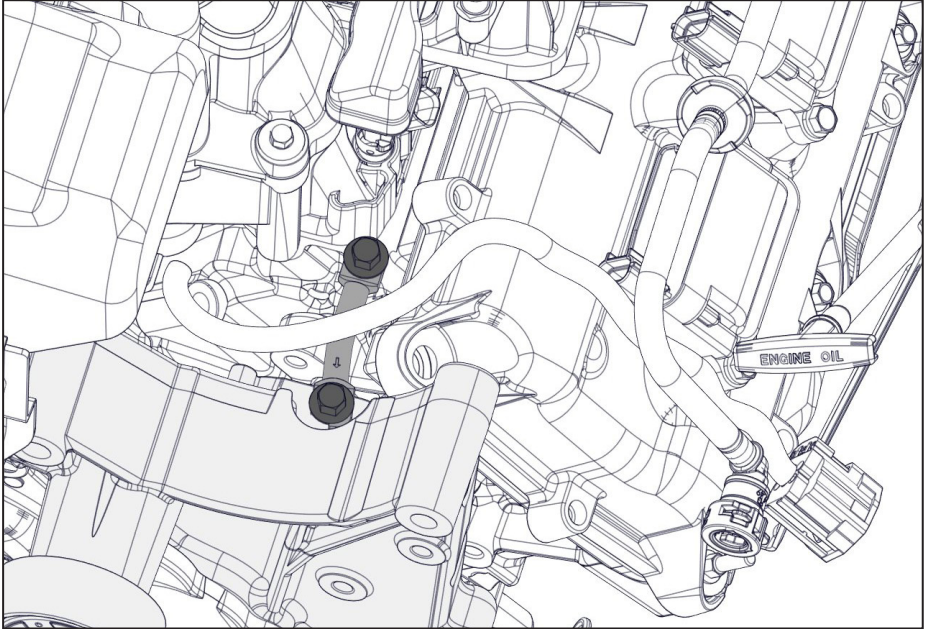

Figure 14 — Remove engine brace
- ☐ Remove and discard the engine brace and fasteners (Figure 14).